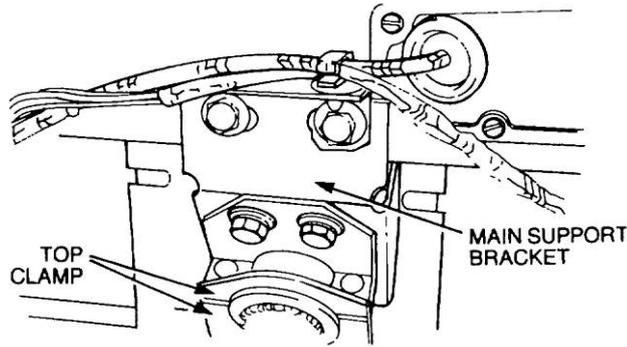

Figure 139 Removal of the Steering Column Upper Mounting
- l. Remove the two bolts securing the two halves of the top clamp and the two bolts that secure the top half of the clamp to the firewall. Remove the clamp and rubber packing (Figure 139).
- b. Loosely secure the main support bracket to the firewall with the two bolts (Figure 139).